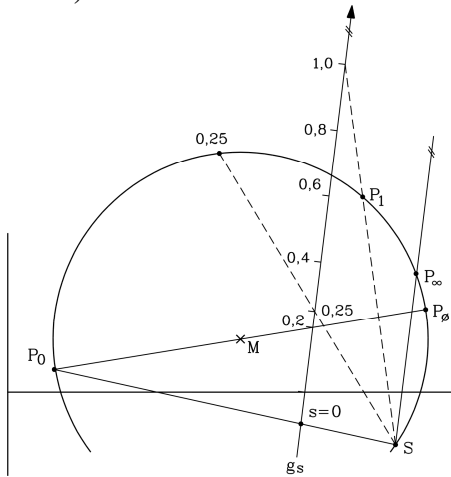
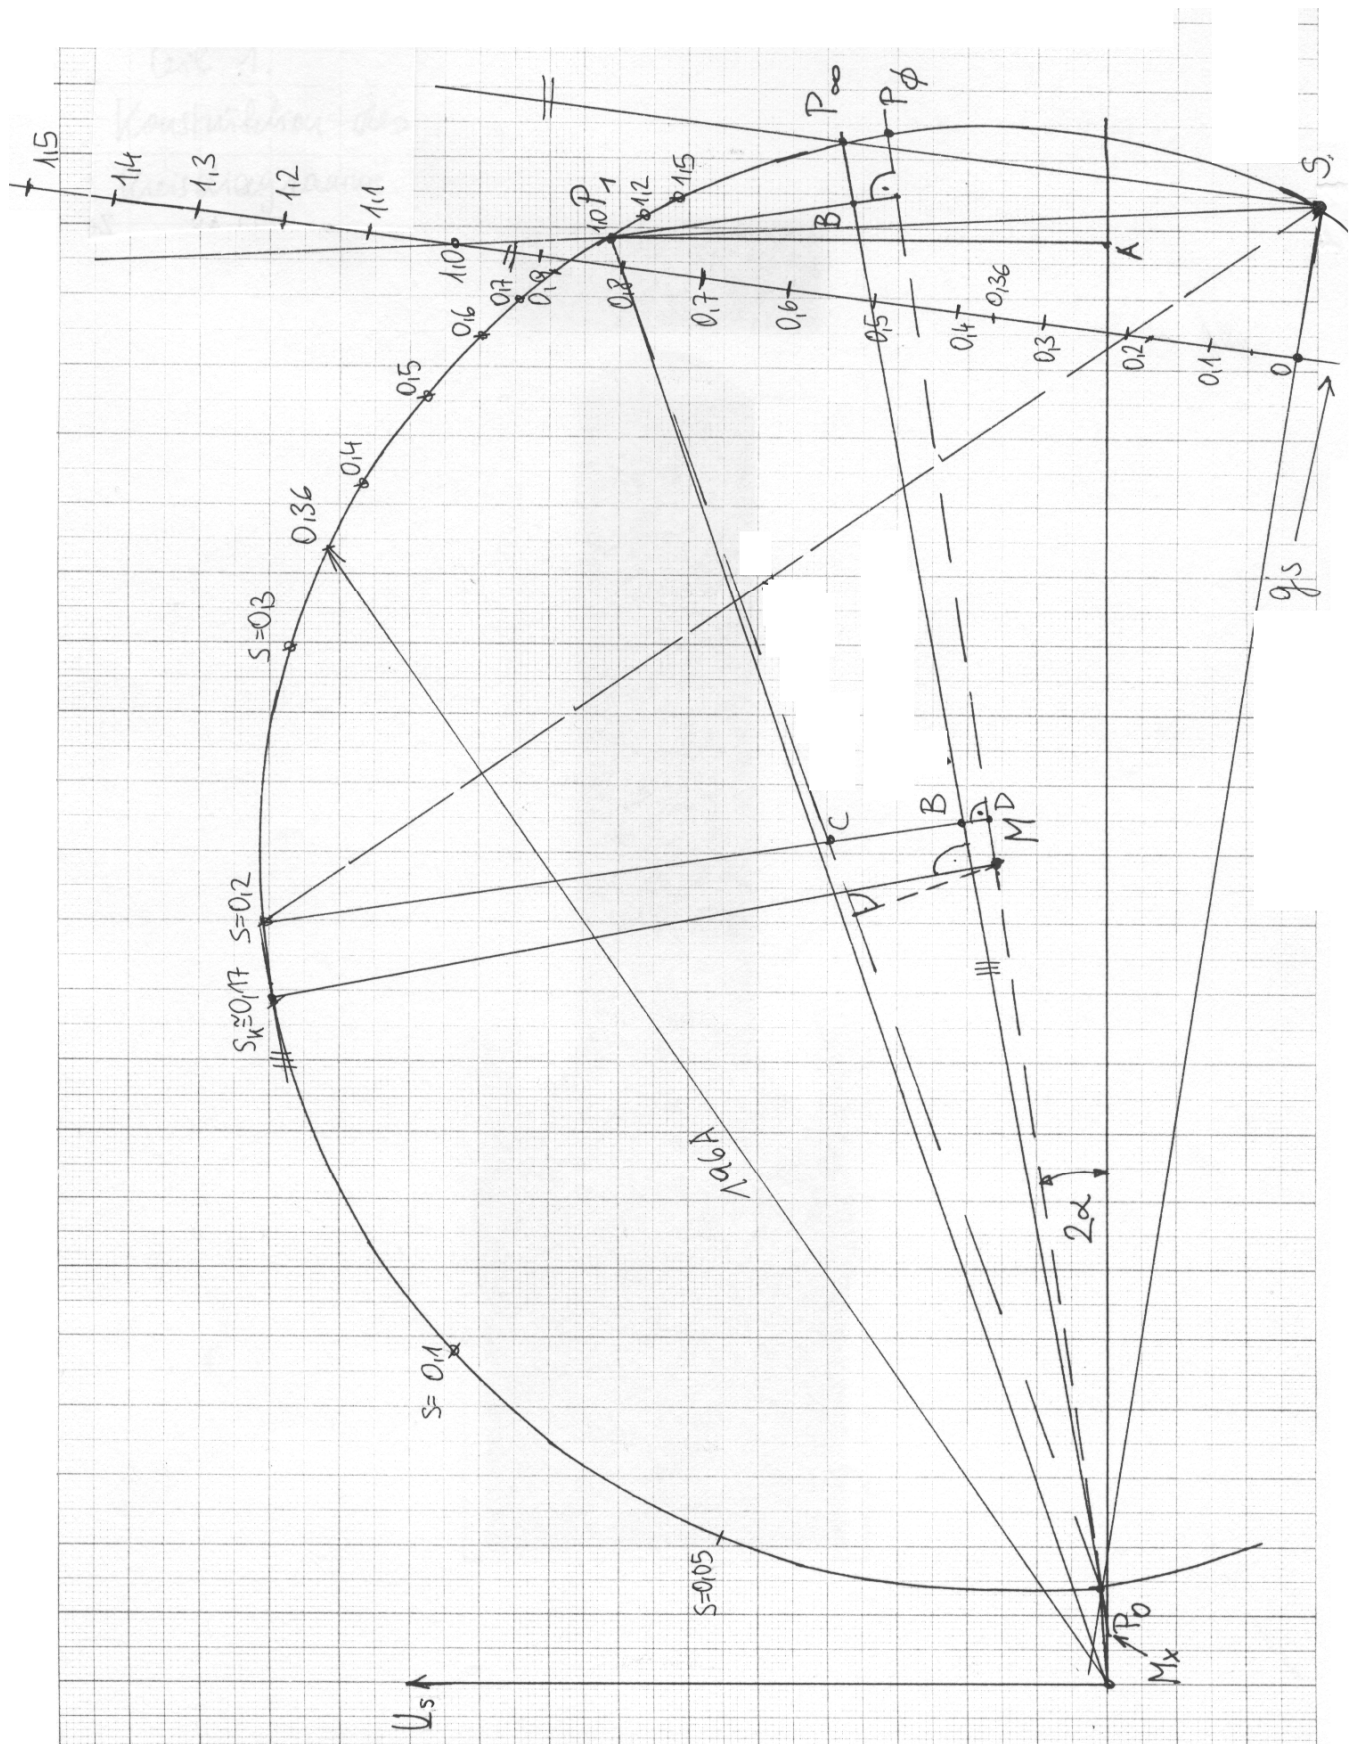

Fig. 2.6-1: Slip line construction to determine slip on circle diagram
Fig. 2.6-4: Construction of slip line and slip determination at *OSSANNA* circle
2) With the construction of slip line  $g_s$  (Fig. 2.6-1) the slip in circle diagram is determined (Fig. 2.6-4).
4) The current at  $s = 1$  with external rotor resistance 0.53 Ohm corresponds to the current at slip 0.36 without external rotor resistance. From circle diagram Fig. 2.6-4 we read:  $I_s = \underline{\underline{198 \text{ A}}}$ .